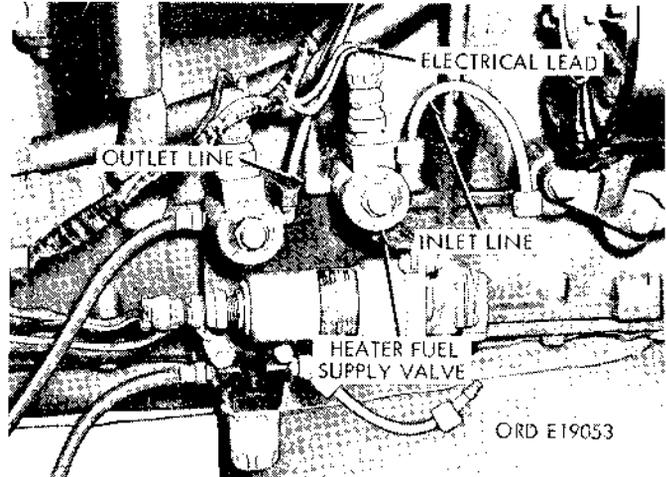

Figure 2-93. Manifold heater supply and fuel return valves—multifuel engine LDS 465-1.
(1) Disconnect the electrical lead and inlet and outlet lines from heater fuel supply valve and / or fuel return valve (fig. 2-93).
- (1) Secure the supply and / or return valves to the bracket (fig. 2-93).
- (2) Secure the fuel pump and filter bracket to the crankcase with the three lockwashers and cap screws.
- (3) Connect the electrical lead and fuel inlet and outlet lines to the supply valve and / or return valve (fig. 2-93).